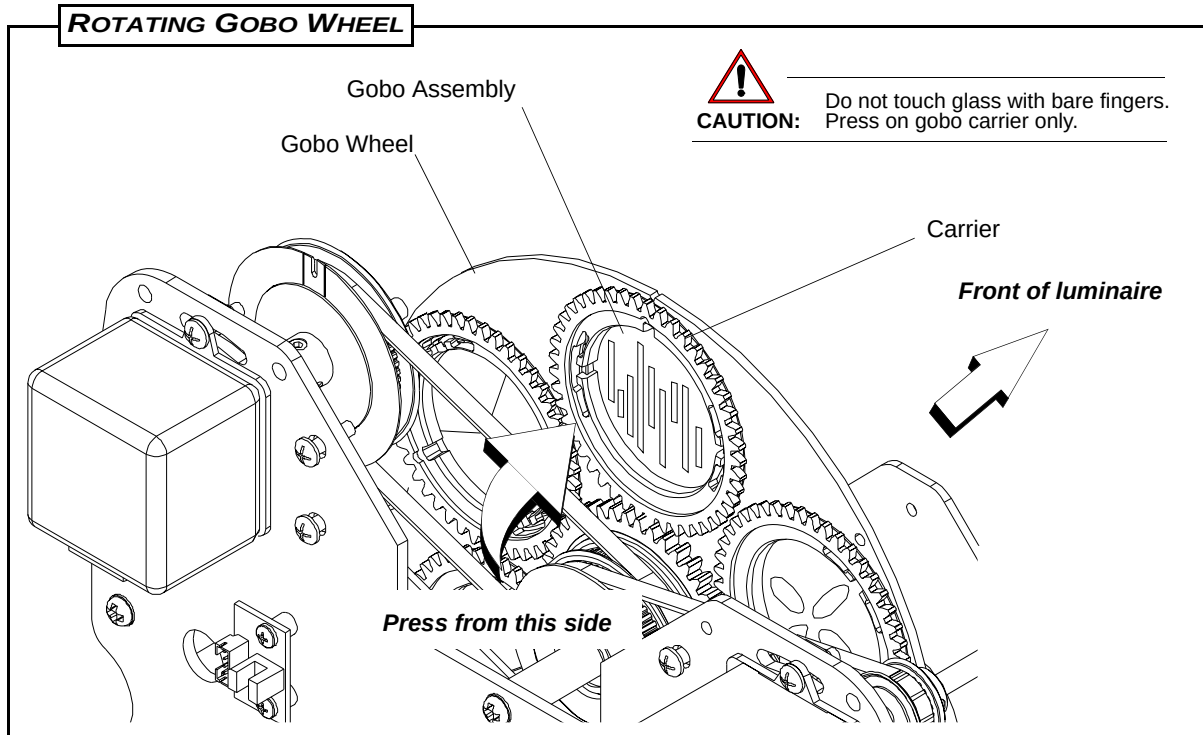

Figure 2-8: Rotating Gobo Wheel - Gobo Replacement
- Step 5. As shown in Figure 2-8, for Gobo Wheels 1, 2 and 3 (VL3015 spot) and Rotating Gobo Wheel (VL3515 spot):